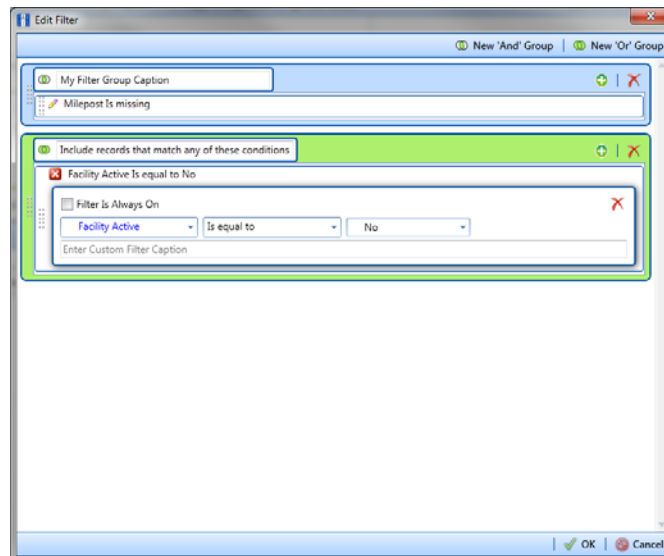

Figure 10-31. New 'Or' Filter Group
- a** Click **New 'Or' Group** to open a filter properties group box (Figure 10-31, page 518).